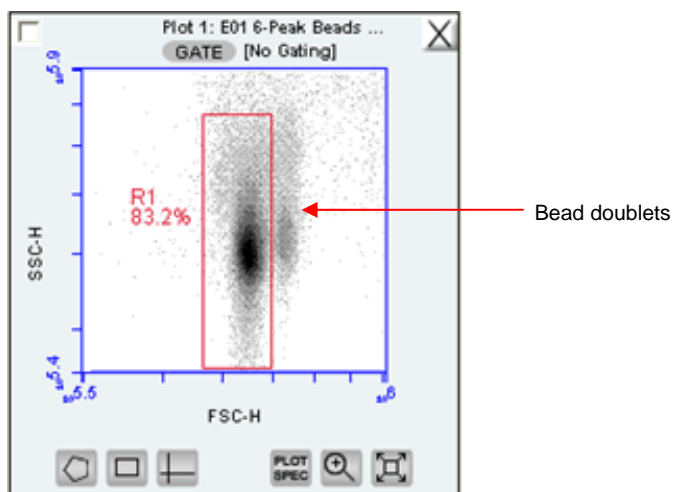

Figure 3-10. Plot with Bead Doublets
- On the first FSC-H vs. SSC-H plot (scatter plot) in the bead file, adjust the pre-drawn region (R1) to encompass the main population by dragging the border of the region (see Figure 3-10). R1 should contain 75-85% of all events.